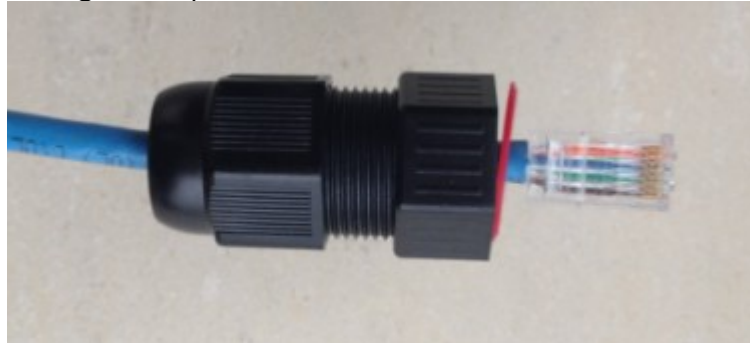

Figure 11 - Use the crimping tool to crimp the RJ-45 connector to the Ethernet cable
- Use the crimping tool to crimp the RJ-45 connector to the Ethernet cable (see Figure 11).